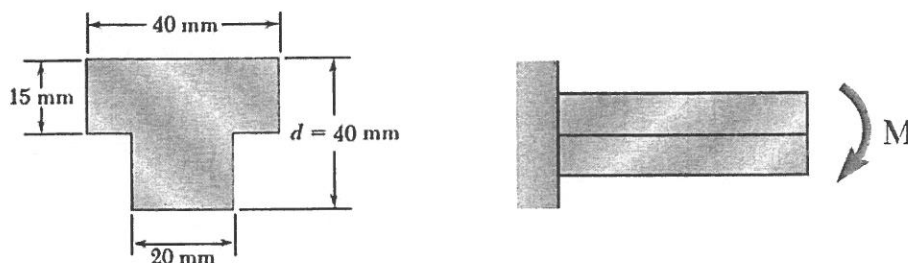

Figure 3(a)
- (a) Figure 3(a) show a T-beam subjected to a moment,  $M$ . It has allowable stress of 24 MPa in tension and 30 MPa in compression. Determine the largest couple  $M$  that can be applied to the beam.